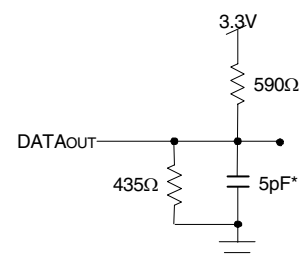

Figure 2. Output Test Load
1. Transition is measured 0mV from Low or High-impedance voltage with Output Test Load (Figure 2).
- Transition is measured 0mV from Low or High-impedance voltage with Output Test Load (Figure 2).